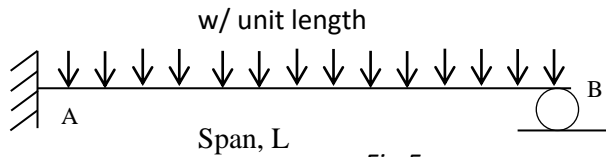

Fig.5
- 5 a) Using the method of consistent deformation, determine the reaction at the prop in a propped cantilever shown in Fig.5. 10